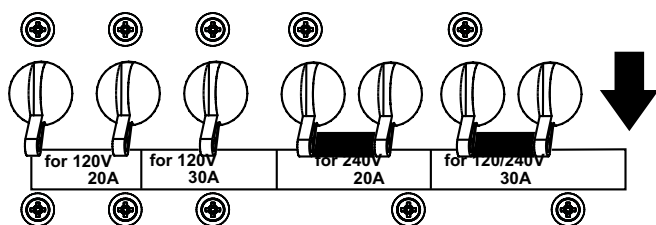

Figure 18. GFCI/AUX. Circuit Breakers (OFF)
3. **NEVER** start the engine with the **GFCI** or **AUX.** circuit breakers in the **ON** position. Always place these circuit breakers (Figure 18) in the **OFF** position before starting the engine.